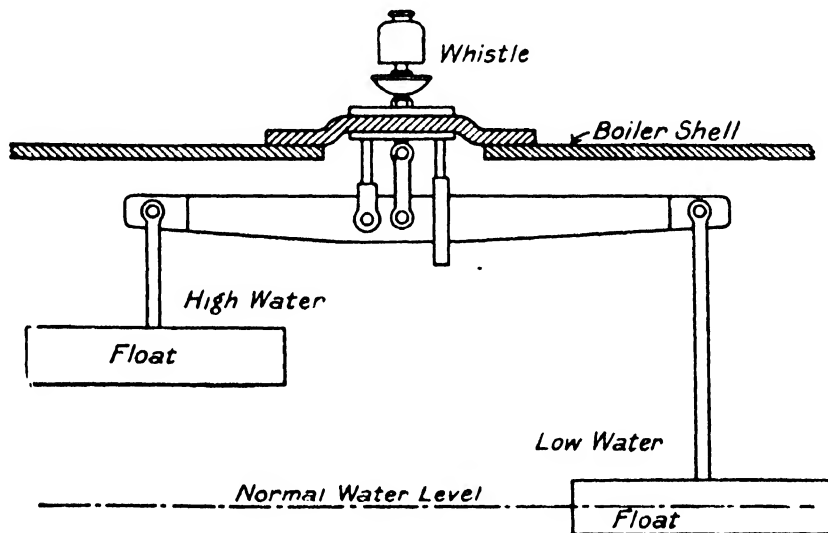

FIG. 108.—The High and Low Whistle Alarm.
**The High and Low Whistle Alarm.**—In Fig. 108 a high and low whistle alarm is shown in diagram. This is a type fitted to water tube boilers, where little latitude in the variation of the working level is permissible, owing to the drums being of comparatively small diameter. This alarm is usually compounded with a dead-weight high steam valve. As will be seen, it has two floats, one for high water and one for